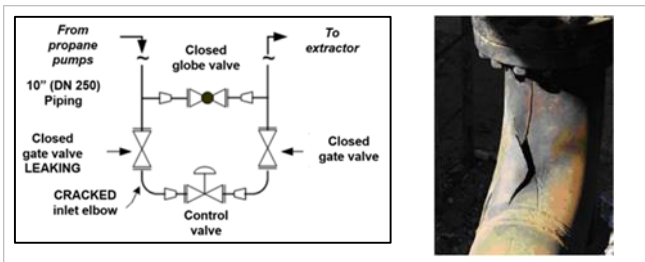

Figure 2. Left, schematic for 2007 incident, based on CSB Report No. 2007-05-I-TX. Right, cracked inlet elbow (CSB)
- Water expands by nine percent on solidifying (freezing). This effect makes ice float, bursts water bottles in a freezer – and it ruptured the elbow in the propane piping in Figure 2.